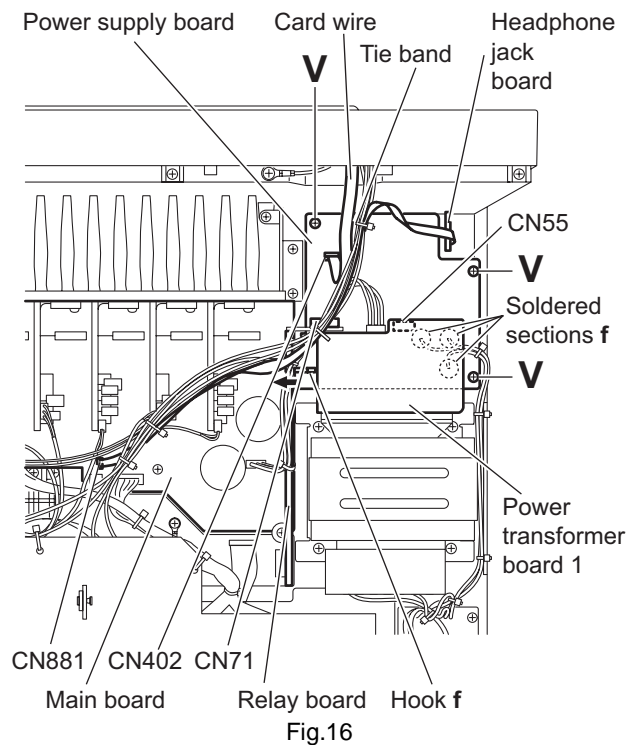

Fig.16
3.14 Removing the power supply board (See Fig.16)
3.15 Removing the headphone jack board (See Figs.16 and 17)
- (1) From the top side of the main body, disconnect the parallel wire from the connector CN881 on the main board. (See Fig.16)
- (3) Remove the three screws **V** attaching the power supply board. (See Fig.16)
- (4) Take out the headphone jack board from the inside of the chassis base while lifting the power supply board.